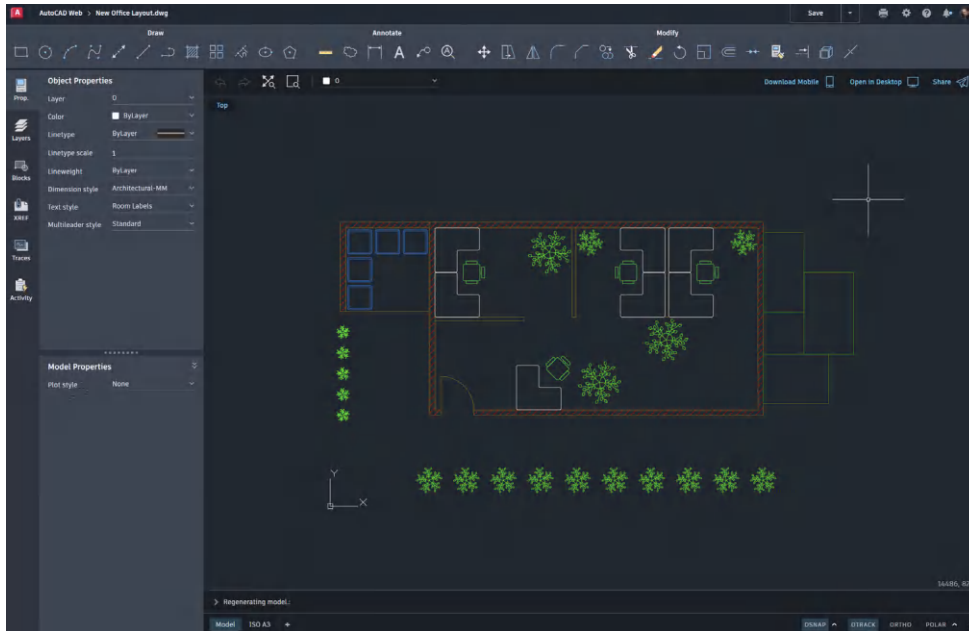

Figure 15.11: The DWG file open in the AutoCAD Web application
5. The DWG file will now open in the AutoCAD Web application in the browser used. This will take a little bit of time (or not), depending on the speed and bandwidth of your internet connection. Once opened, you will see the main interface screen of AutoCAD Web with the DWG file displayed in the **Model** tab, as shown in *Figure 15.11*.